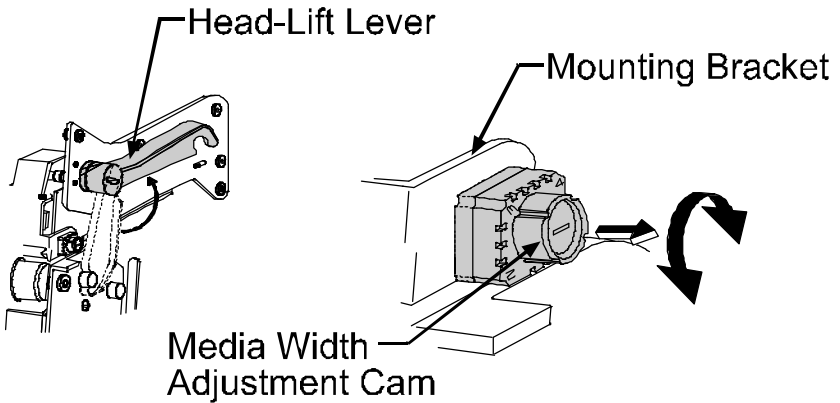

Figure 1-7 Adjusting Printhead Pressure
3. With the cam in the extended position, rotate it counter-clockwise or clockwise to the desired width setting. The numbered notch on the top right corner of the cam identifies the media width setting. (Figure 1-7 shows the cam being changed from the four position to the one position).